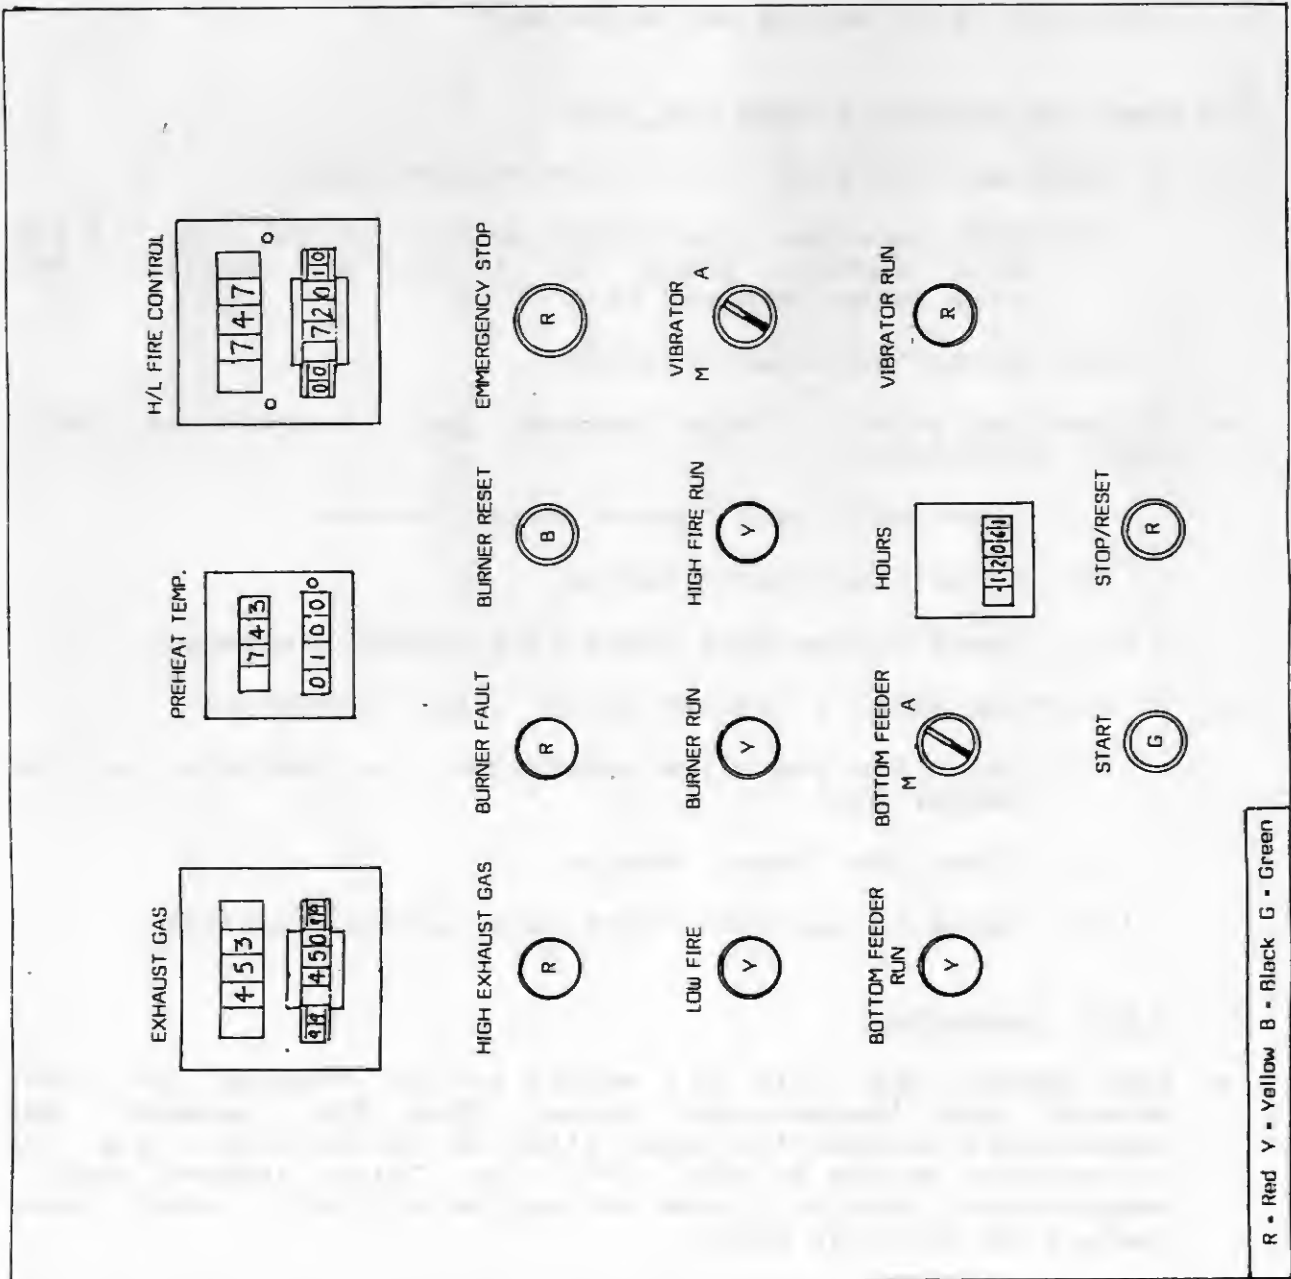

Fig. 20 The Regeneration Kiln Control Panel
9.2 Start Up Procedure (See Fig. 20)
- a. High Exhaust Gas This is a safety device working off the exhaust gas thermocouple probe. When the exhaust gas temperature reaches the upper limit of the setting, e.g. as illustrated on fig.20 $450 + 99^{\circ}$, the 'high exhaust gas' temperature light will come on and the kiln will shut down. Restart as per 9.2b above.
This is a safety device designed to protect the kiln from the impact of sudden heating. The burner will operate on 'low fire' until the preheat setting, e.g. 100°C as illustrated in fig. 20, is reached. During this period the green light